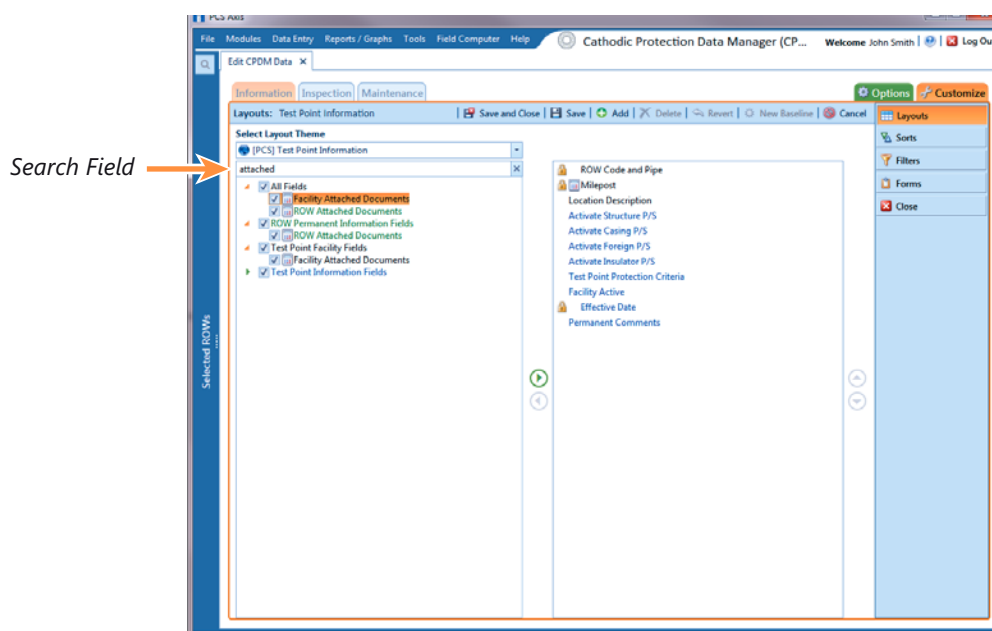

Figure 6-80. Layouts
- a Click the check box for the fields **Facility Attached Documents** and/or **ROW Attached Documents** in the left pane of the window (Figure 6-80, page 252).